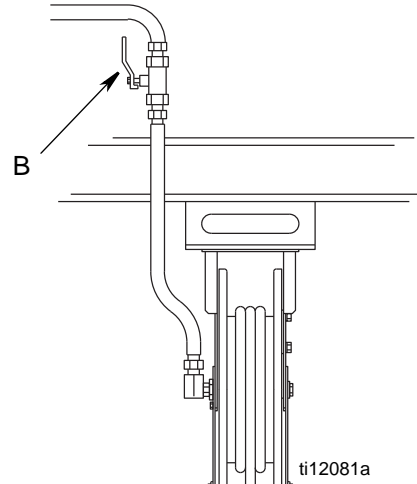

FIG. 8
4. Open all dispense position shut-off valves (B, FIG. 8) and start the pump to pressurize the system. See **Operation**, (LDM5 Meters - page 13), for proper operation of meter.